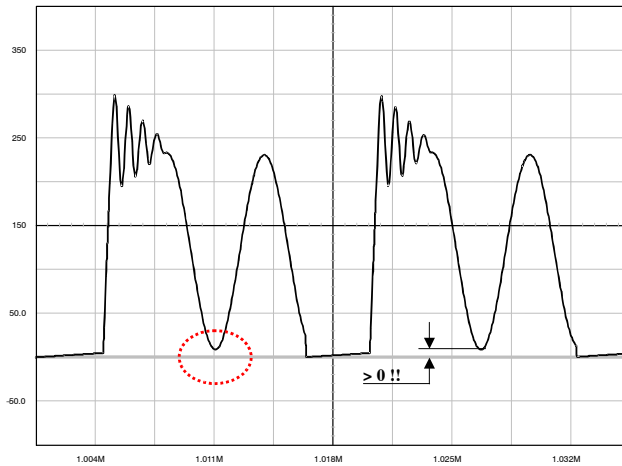

Figure 35. The Drain-Source Wave Shall Always be Positive
1. The lateral MOSFET body-diode shall never be forward biased, either during start-up (because of a large leakage inductance) or in normal operation as shown by Figure 35. This condition sets the
Figure 37a: the simple capacitor limits the voltage according to The lateral MOSFET body-diode shall never be forward biased, either during start-up (because of a large leakage inductance) or in normal operation as shown by Figure 35. This condition sets the maximum voltage that can be reflected during t_{off} . As a result, the Flyback voltage which is reflected on the drain at the switch opening cannot be larger than the input voltage. When selecting components, you thus must adopt a turn ratio which adheres to the following equation: Equation 3. This option is only valid for low power applications, e.g. below 5 W, otherwise chances exist to destroy the MOSFET. After evaluating the leakage inductance, you can compute C with Equation 4. Typical values are between 100 pF and up to 470 pF. Large capacitors increase capacitive losses...